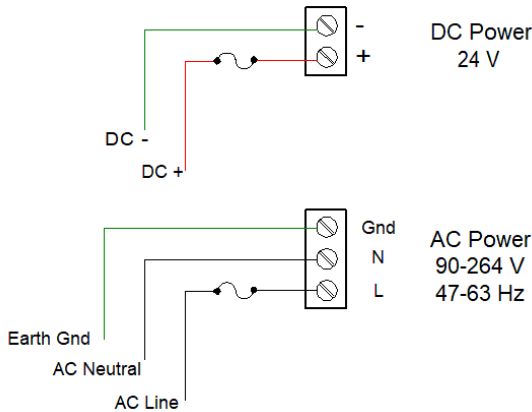

Figure 16. Power Connections
- Use three-terminal power connector as shown in Figure 16.
- Use two-terminal power connector as shown in Figure 16.